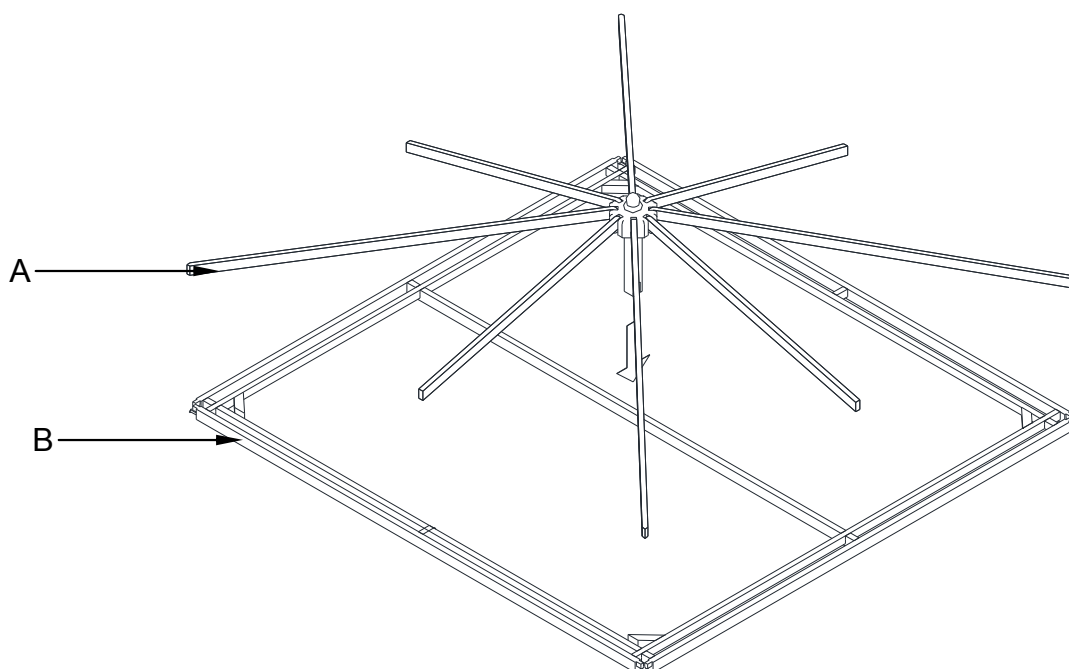

Fig. 7
7. Assemble the Top Cover Frame (A) to the Top Frame (B) as shown on Fig. 7.